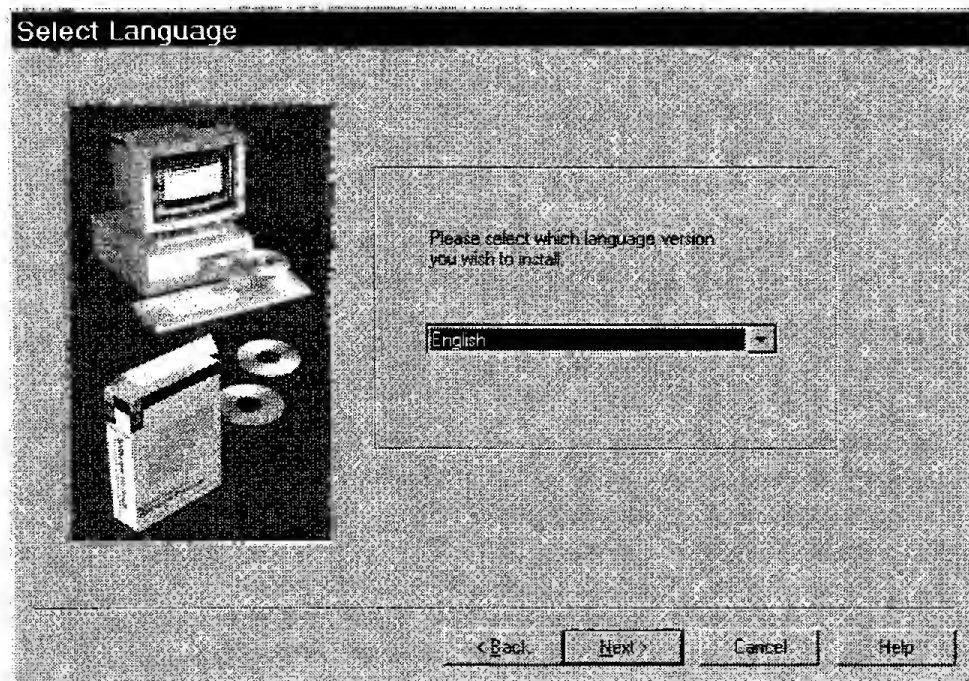

Figure 5-8: Software Download Language Screen
4. Choose the language then click NEXT (see Figure 5-8).